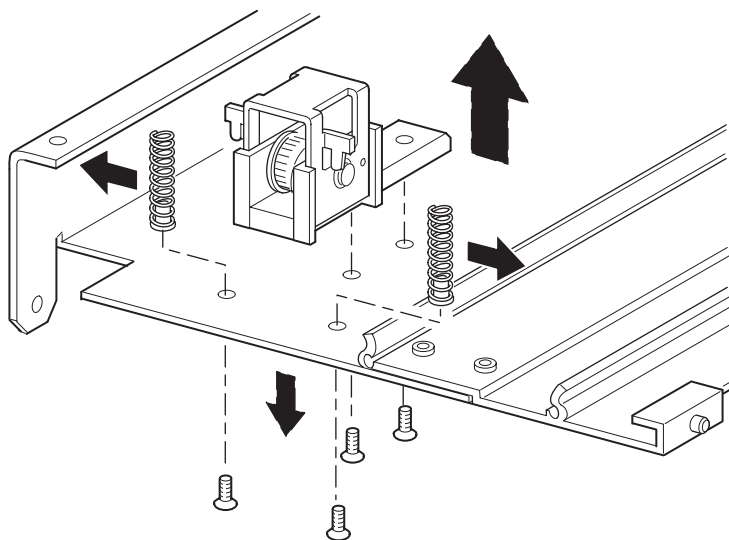

Figure 2-10. Removing the belt tensioner ramp and idler pulley
7. Remove the belt tensioner ramp and idler pulley components as follows (see Figure 2-10):
10. Secure the belt tensioner ramp and idler pulley to the extension using the two previously removed screws (see Figure 2-10).
11. Secure the belt tensioner ramp and idler pulley springs using the two previously removed screws (see Figure 2-10).